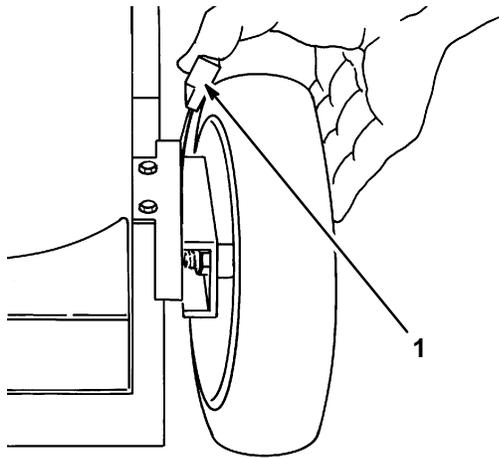

Figure 15
2. For easier adjustment, lift housing up so wheel is off ground. **Do not place hands under deck to lift housing.** Squeeze adjusting lever toward wheel (Fig. 15) and move it to the desired setting. Assure pin on adjusting lever engages notch in mower housing wear plate. Adjust all wheels to the same setting.